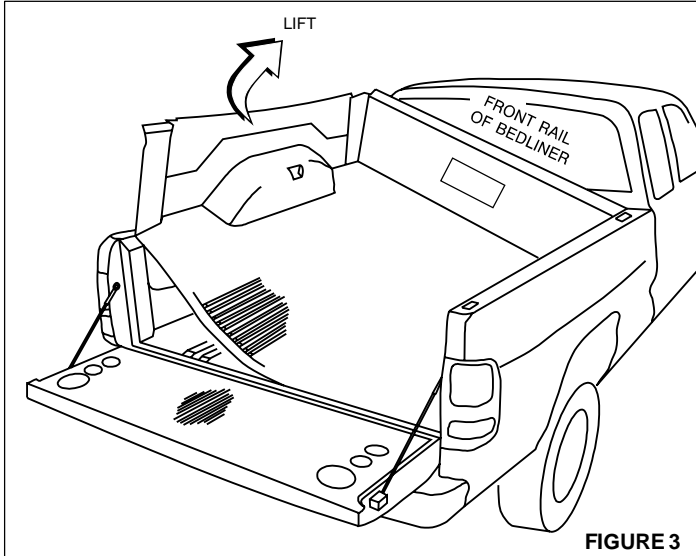

FIGURE 3
Using a T-30 Torx driver, fasten the tailgate cover to the tailgate with the (8) previously removed screw/washers. For all screw locations, place a kit supplied washer under each screw/washer as shown. (Fig. 3) Tighten the screws. Do not over-tighten.
While standing at the side of the bed, lift one side of bedliner high enough to allow the opposite side to slip under the side rail of the truck bed. Note: If your vehicle is equipped with the C.M.R. System, the bedliner sidewall will slip under the side C.M.R.. (Fig. 3)